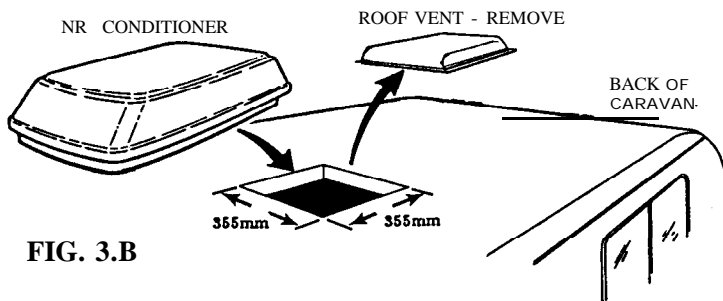

FIG. 3.B
- B. Many air conditioners can be installed at existing roof vent openings. These openings may be larger or smaller than 355 X 355 mm and will need modification. (FIG. 3.B)